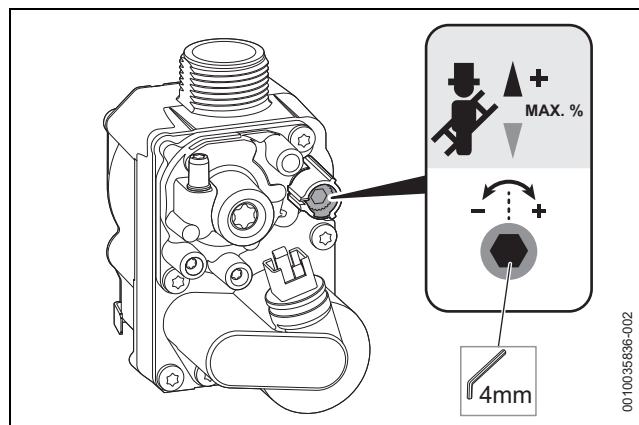

Fig. 88 Setting the CO₂ content
- ▶ Insert the hex tool into the adjusting screw of the gas valve (as shown in the below Figure 88) and set the CO₂ content for maximum rated output.